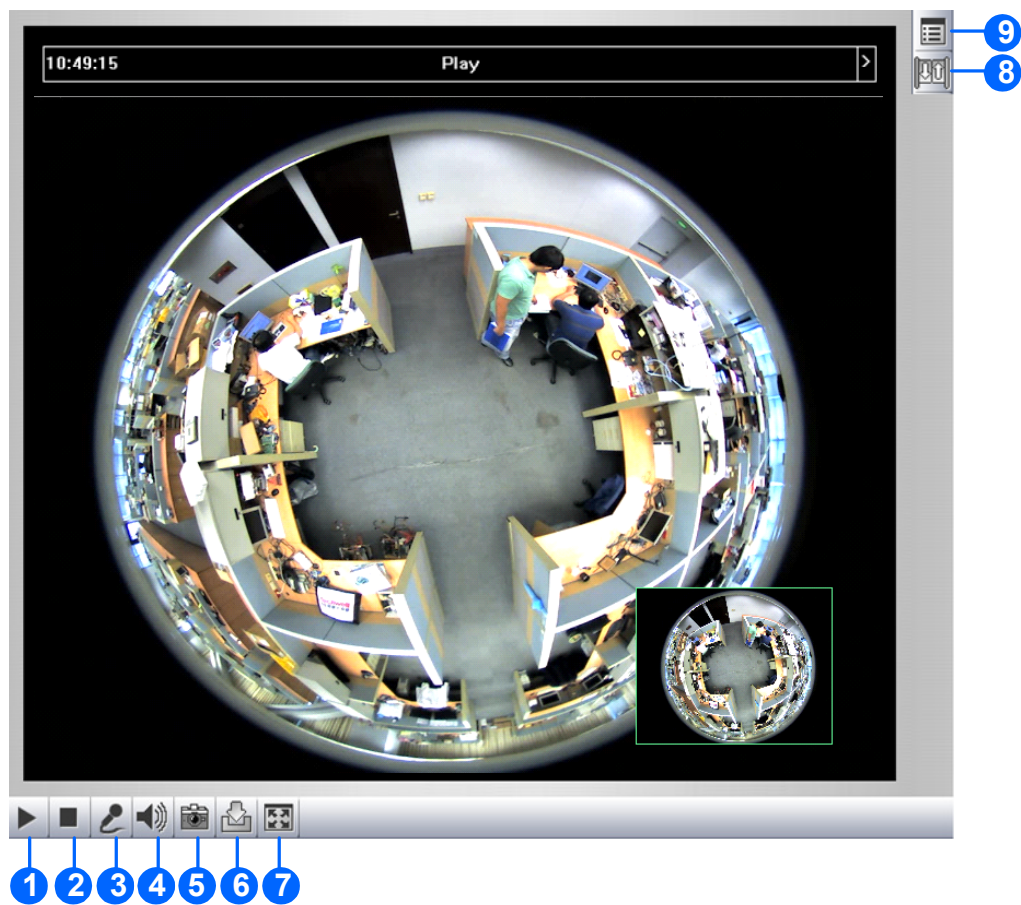

Figure 3-3
1. Click the **Snapshot** button (No. 5, Figure 3-3). The Save As dialog box appears.
1. Click the **File Save** button (No. 6, Figure 3-3). The Save As dialog box appears.
4. To stop recording, click the **Stop** button (No. 2, Figure 3-3).
- Click the **Full Screen** button (No. 7, Figure 3-3). Right-click the full screen to have the options of **PIP** and **PAP**.